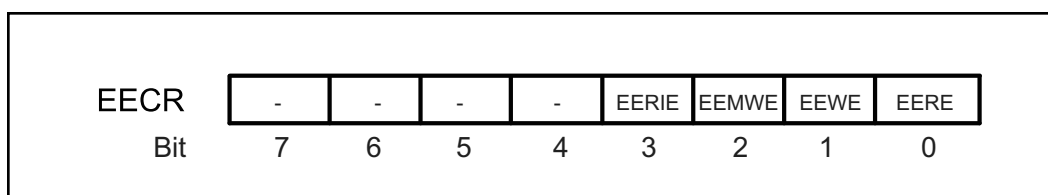

Figure 16. EEPROM Control Registers
The EECR register is used to select the kind of operation to perform on. The operation can be start, read, and write. In Figure 16 you see the bits of the EECR register. The bits are as follows:
**EEPROM Ready Interrupt Enable (EERIE):** As you see in Figure 16, bits 4 to 7 of EECR are unused at the present time and are reserved.